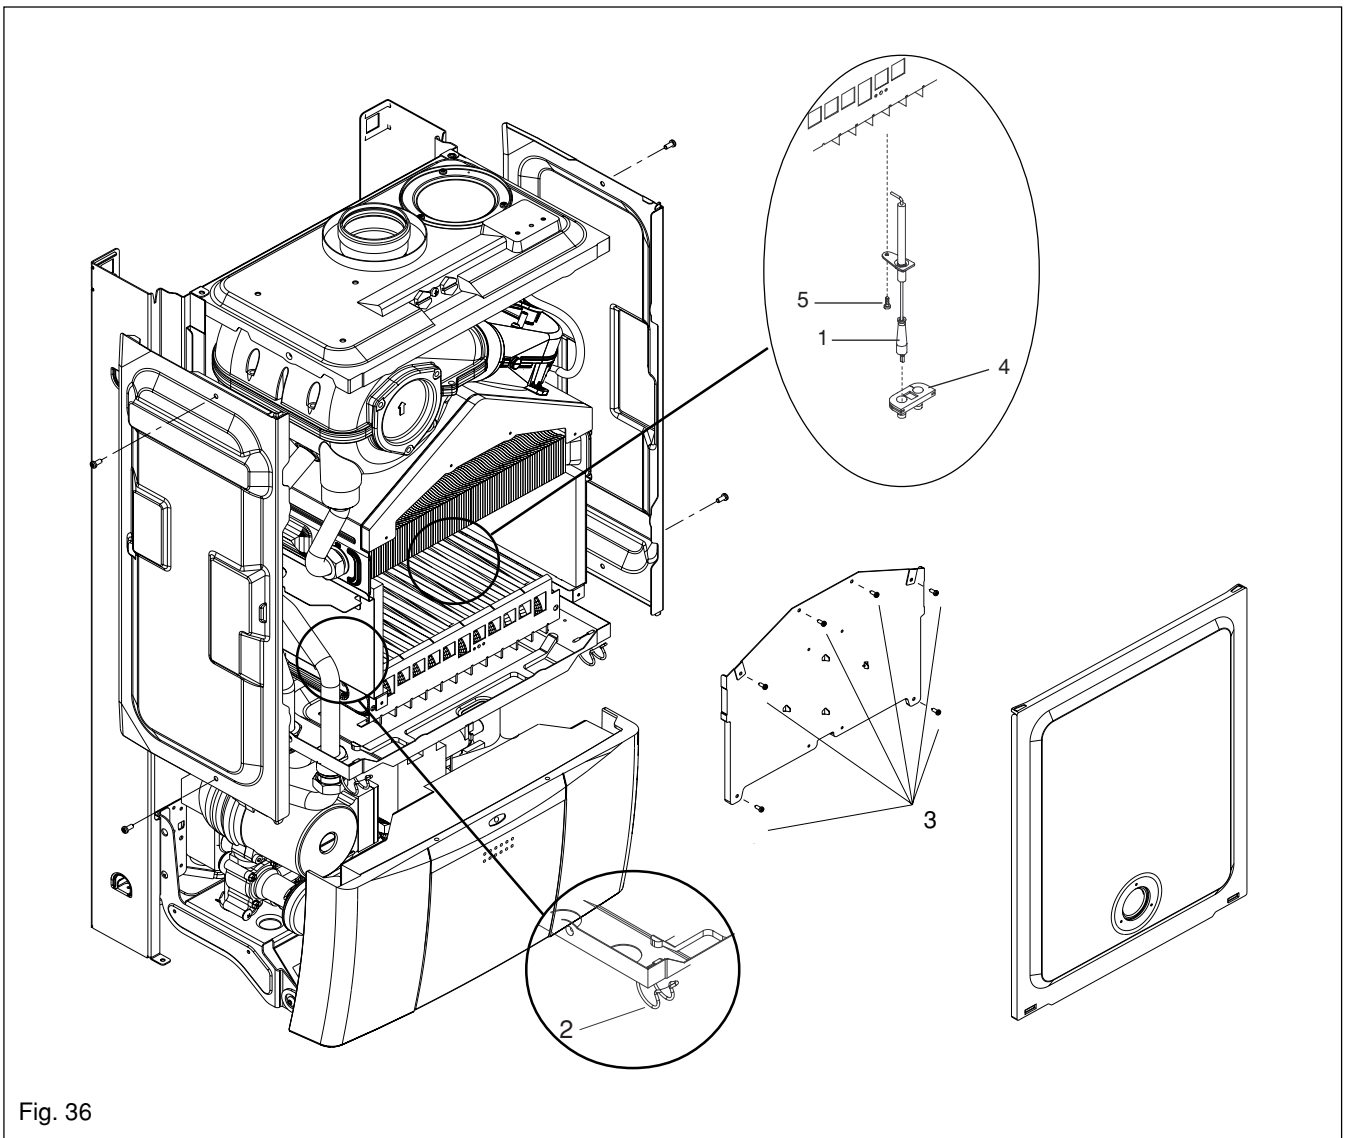

Fig. 36
6.16 FLUE FAN (see fig. 36 & 38)
Fig. 36: unclip and remove the air chamber cover, gently pull the cover towards you before lifting and disengaging (2). Locate and remove the six screws that secure the front combustion cover, then remove the cover (3).